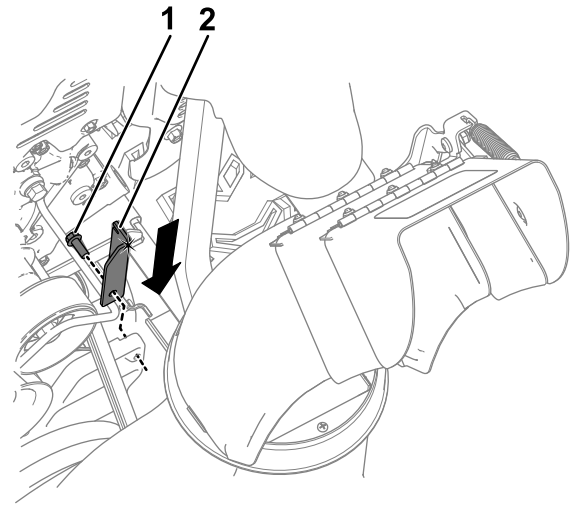

**Figure 3**
4. Remove the existing traction plate from the friction wheel plate by removing the bolt holding it in place (Figure 3).